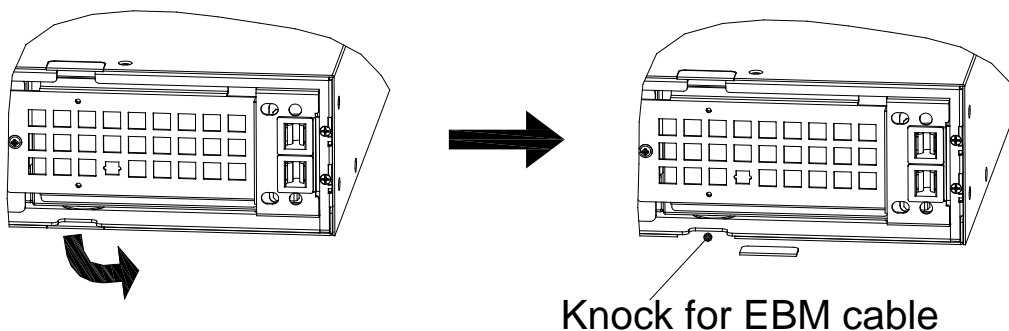

FIG.12 Removing the UPS Cable Knockout
3. For the bottom (or only) EBP, remove the EBP cable knockout on the top of the EBP front cover. See FIG. 12 for the location of the top EBP cable knockout.
4. If you are installing more than one EBP, for each additional EBP remove the EBP cable knockout on the top and bottom of the EBP front cover. See FIG. 12 for the location of the EBP cable knockouts.
5. Plug the EBP cable(s) into the battery connector(s) as shown in FIG. 12. Up to four EBPS may be